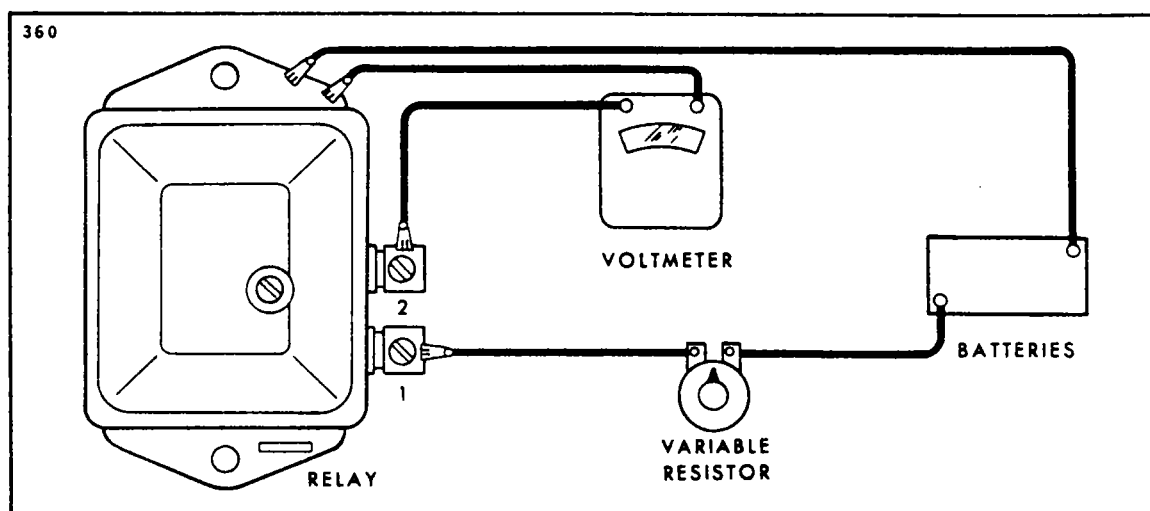

Figure 11-15. Relay Tests
- b. Connect this resistor with a voltmeter and three 12-volt batteries in series to the relay as shown in Figure 11-15. Connect the negative battery post to the relay base, and the positive battery post to the variable resistor.